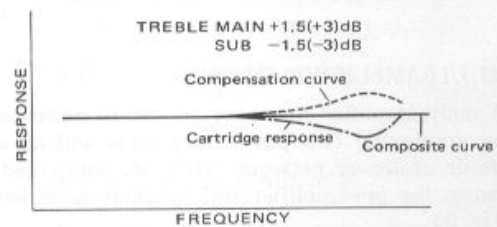

Fig.17 - Compensation for high frequency slackening of cartridge.
- High frequencies can be adjusted by the TREBLE twin controls to compensate for quavering which often occurs with moving magnet (MM) type phono cartridges. When conventional tone controls are used to enhance high frequencies from records, to cite another example, ultra high frequency peaking can occur from the phono cartridge. This drawback is eliminated by the twin control system, which can enhance 8kHz - 10kHz frequencies slightly, while returning higher frequencies to a flat response. See Fig. 17.